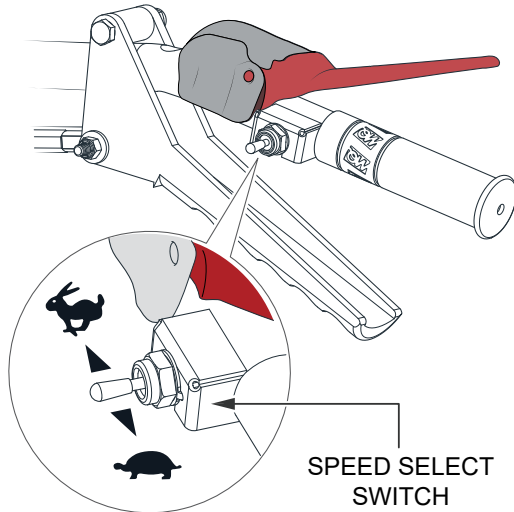

Figure 9. Selecting Speed
4. Select the speed range desired with the speed switch (Figure 9). Select low speed (0 to 3.0 mph) or high speed (0 to 6 mph).